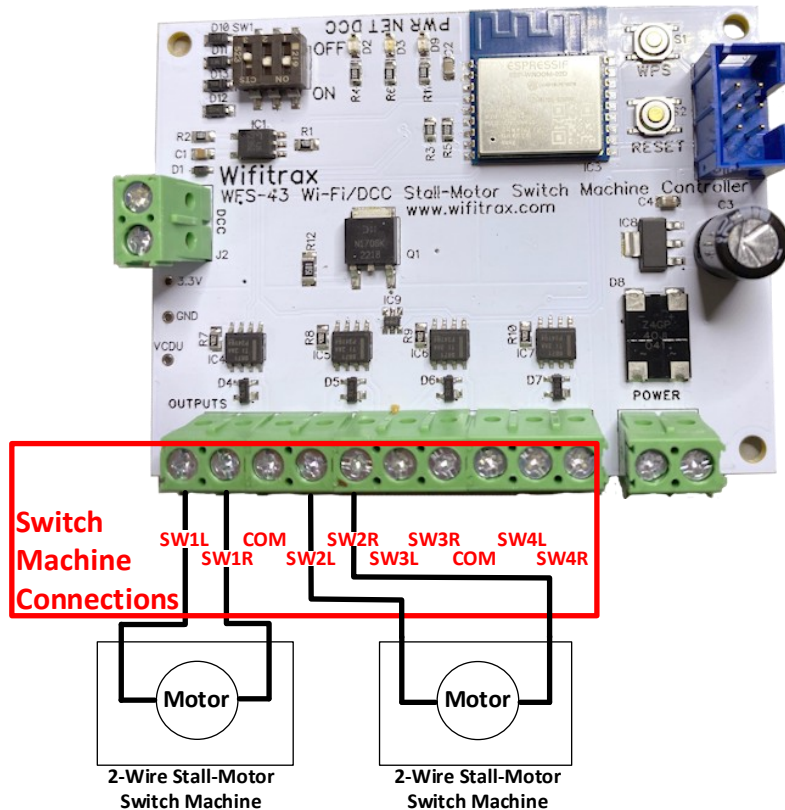

Figure 2. Connection Diagram for Stall-Motor Switch Machines
- (3) The WFS-43 only controls Stall-motor Switch machines, so you must use that type. You can connect up to four switch machines as in Figure 2. Connect your WFS-43 to DC or DCC power, 12 – 18 Volts. About 15 V DC is usually ideal or about 14-15 V Peak-Peak DCC. It does not matter which way around you connect the power. Do not turn on the power until ready for testing. Mount your WFS-43 suitably so that it does not move around and possibly touch track voltage. If it does, it will likely be destroyed.